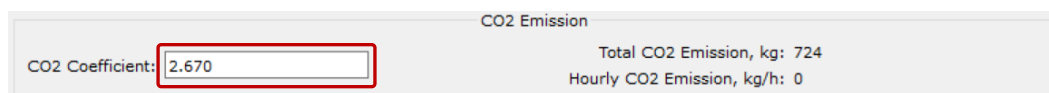

Figure 46 — Example of entering the CO₂ coefficient using the service software
4) Enable the CO₂ emissions determination function (PGN 63026) (see figure 46). This function is intended for automatic calculation by the DFM electronic module* of total (SPN 521864) and hourly (SPN 521865) CO₂ emissions based on the engine's actual total and hourly fuel consumption values.